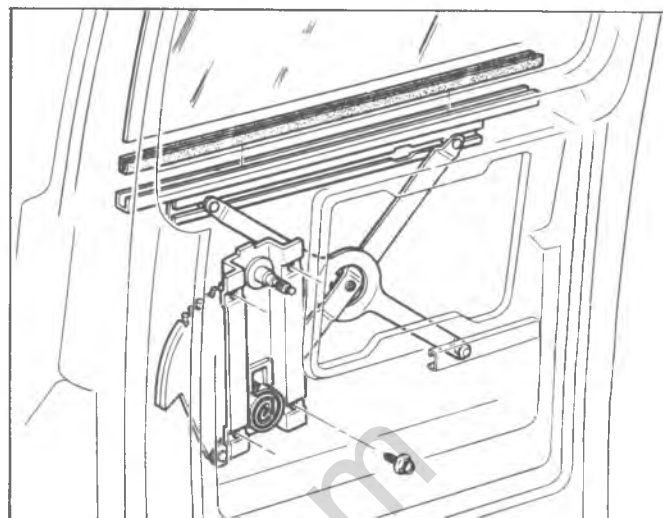

Fig. 40—Window Glass and Regulator Assembly
## WINDOW GLASS—FIG. 40
- channel. See figure 40. Disengage roller from channel.
### WINDOW REGULATOR ASSEMBLY—FIG. 40